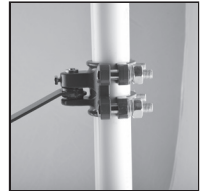
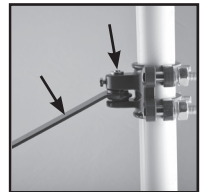

Fig 6
Fig 7
7. Place the hoist stay support bracket (4) and the 2 hoist stay support rear brackets (5) around the 50mm pole approximately 300mm-350mm above the hoist frame bracket.
Feed through 4 mounting bracket bolts (12), through the holes in the stay support bracket (4) and hoist stay support rear brackets (5). Fit the flat washer, spring washer and nut. Tighten by hand (Fig 6).
**Note:** Apply some general purpose grease/or oil onto the hoist frame stay support bracket pin (3) and in the bracket pin hole of the hoist frame stay support bracket (4) (Grease / oil not included).
8. Place the end of the hoist frame stay support (2) in the space of the hoist stay support bracket (4), and insert the hoist frame stay support pin (3) (Fig 7).